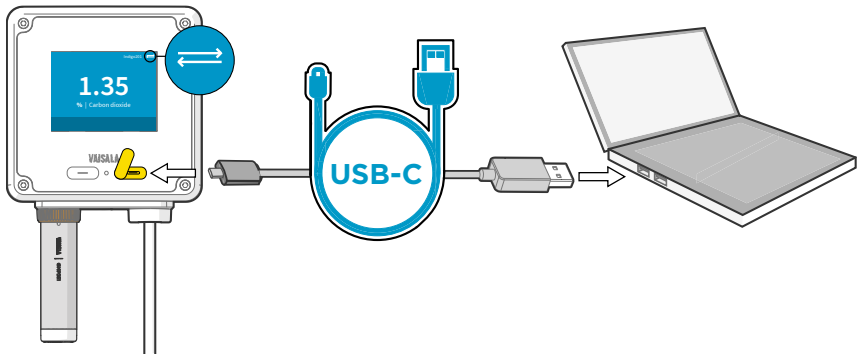

Figure 6 Connecting Indigo200 transmitter to Insight PC software with USB-C cable
5. In transmitter models with a display, the USB connection icon (see Figure 6 \(page 17\)) appears on the top right corner of the transmitter display when the USB cable connection is active.